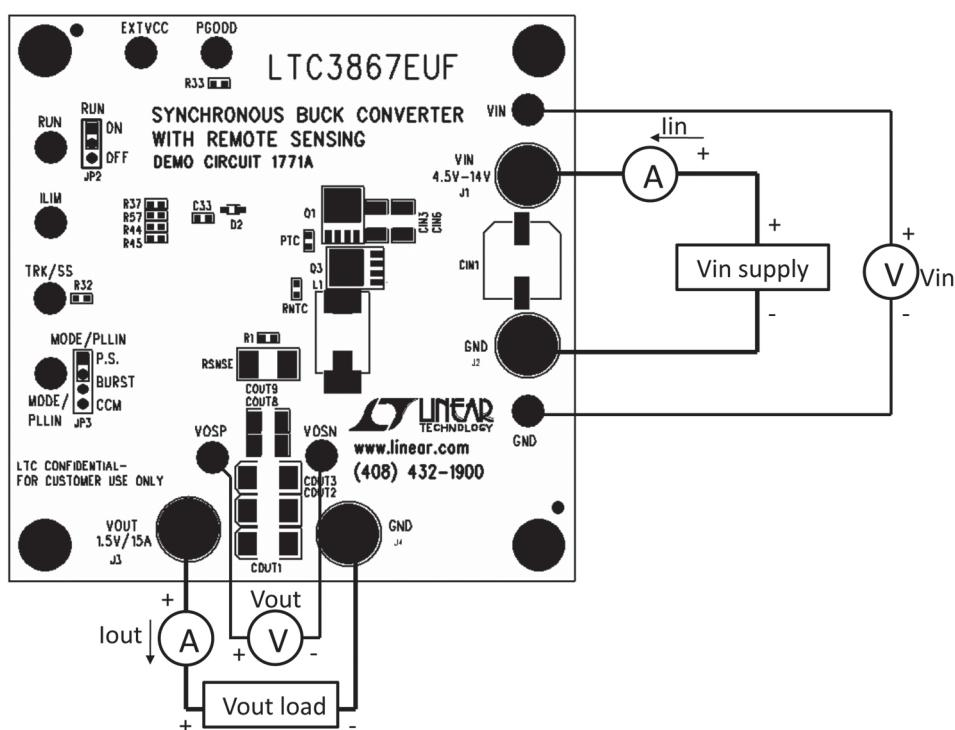

Figure 1. Test Setup of the DC1771A
Demonstration circuit DC1771A is easy to set up to evaluate the performance of the LTC3867EUF. Please refer to Figure 1 for proper measurement equipment setup and follow the procedure below:
- With power off, connect the input power supply, load and meters as shown in Figure 1. Preset the load to 0A and VIN supply to 12V.